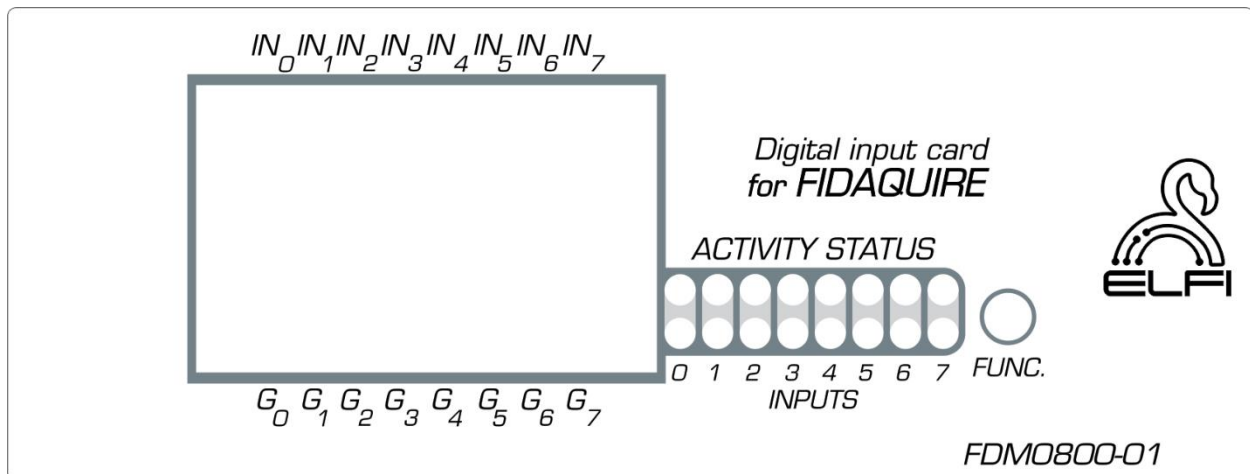

Figure 3: Image related to the card surface
**Note:** In Figure 3, the lights in the top row indicate whether the channels are active or inactive, while the lights in the bottom row show the Trig state of the channels.